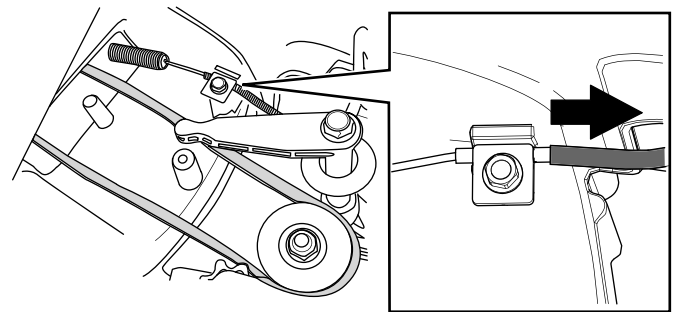

Figure 34
6. Pull the cable jacket to remove slack (Figure 34).